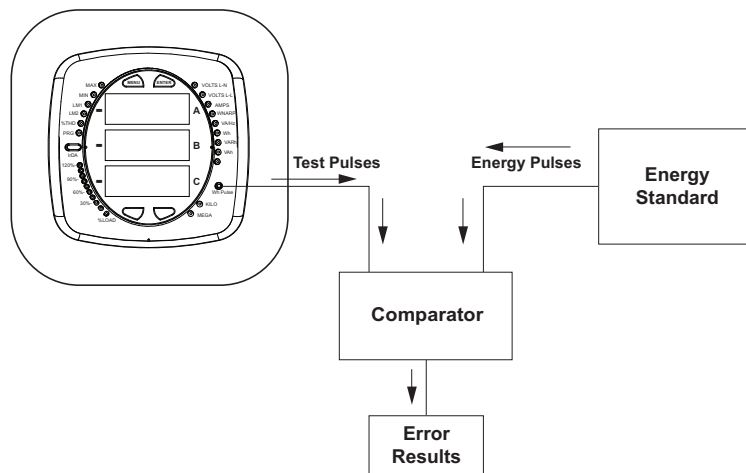

Figure 7.5: Using the Watt Hour Test Pulse
- Refer to Figure 7.5 for an example of how this process works.